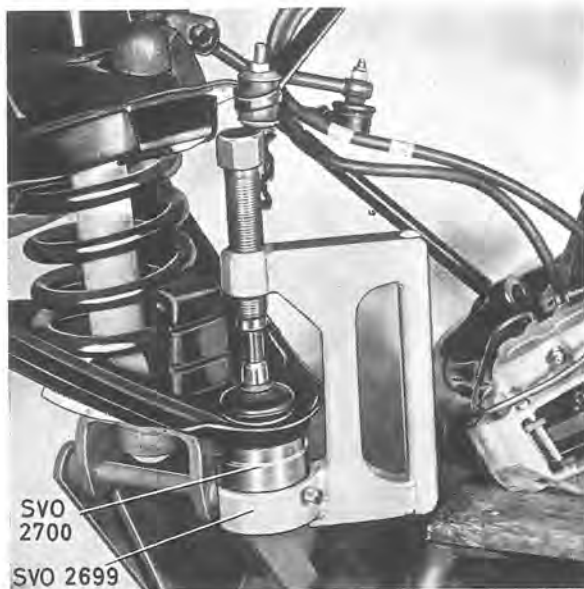

Fig. 6-29. Removing lower ball joint
5. Press the ball joint out of the lower control arm with press tool SVO 2699 and sleeve SVO 2700, see Fig. 6-29.